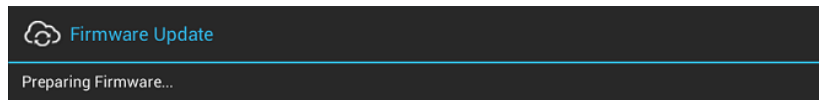

FIG. 101 Firmware Update - Preparing Firmware
6. The firmware update will begin the install process (FIG. 101):